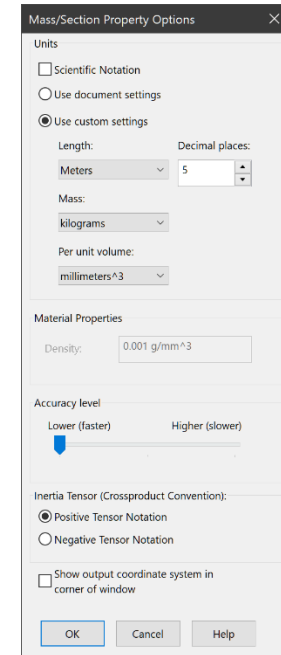

Figure 2: Mass Properties
2. **Load Inertia** = Lzz (see Figure 2)